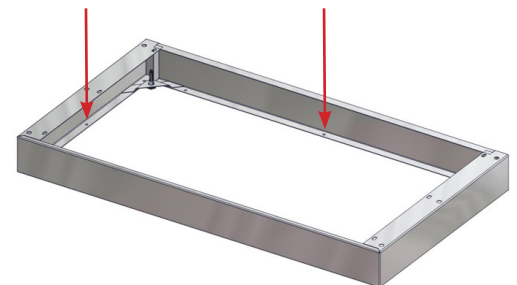

Fig. 6: Secure Base to Floor
3. It is recommended that the cabinet can be further stabilized by attaching the base to the floor via holes in the bottom of the cabinet base (Hardware not provided) (Fig. 6).